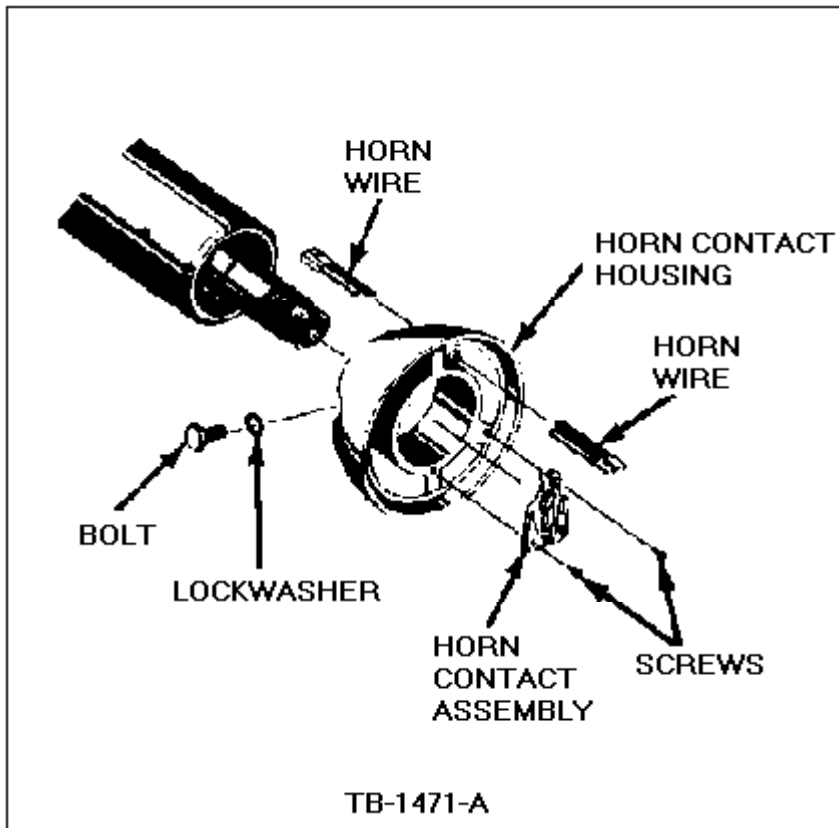

Figure 4 - Article 90-5-10
1. Remove the bolt and lock washer from the horn contact housing using a 1/4 inch 12 point socket, Figure 4.